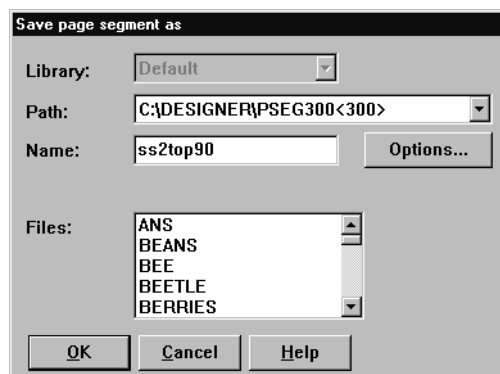

Figure 32. Saving the rotated page segment
4. You are prompted to save the new page segment in your library path. A useful convention is to add "90" to the original name (in this case **SS2TOP90**). Figure 32 contains an example of the panel.